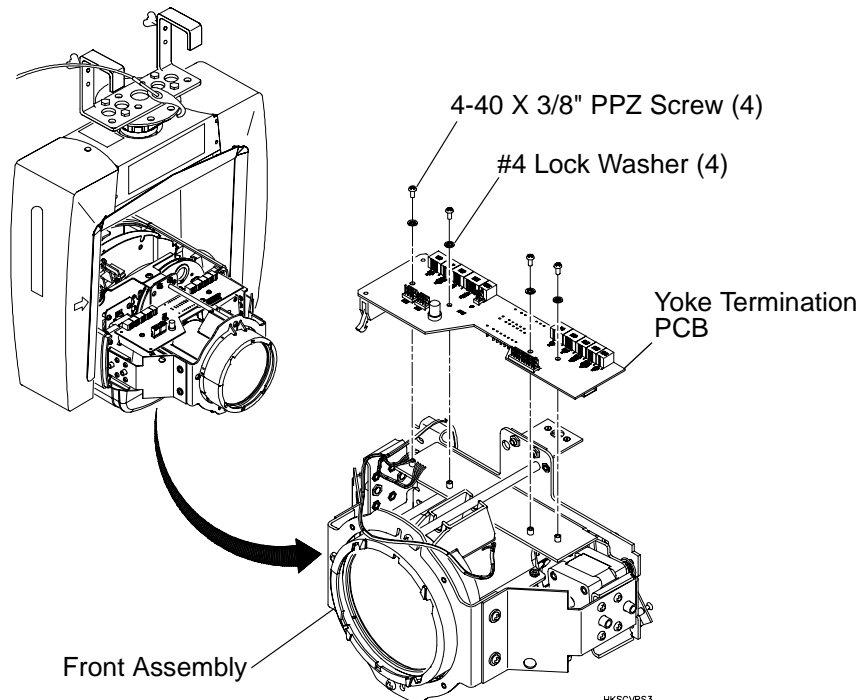

Figure 2-19: VL6B/VL6C Luminaire Yoke Termination PCB Replacement
- Step 5. Using #1 Phillips screwdriver, remove four 4-40 X 3/8" PPZ screws and four #4 lock washers securing yoke termination PCB to front assembly, and remove board. **Figure 2-19.**